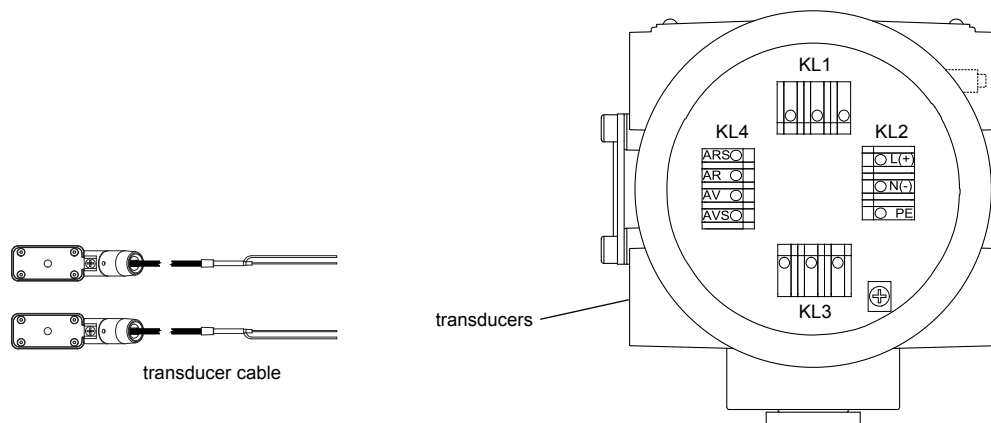

Fig. 6.13: Connection of the transducer cable
- Remove the blind plug for the connection of the transducer cable (see Fig. 6.13).
- Connect the transducer cable to the terminals of the transmitter (see Fig. 6.13 and Tab. 6.8).